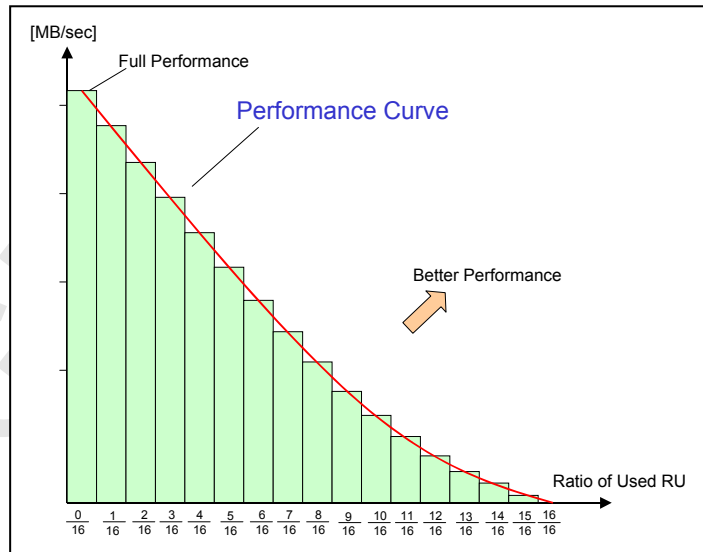

Figure 4-49: Card Performances between 16 RUs
Figure 4-49 shows the write performance bar chart of P(Nu) of equation (1). An AU consists of 16 RUs in this example. Joining the points of each bar shows the performance curve, which can be determined from the two parameters, **Pw** and **Pm**.